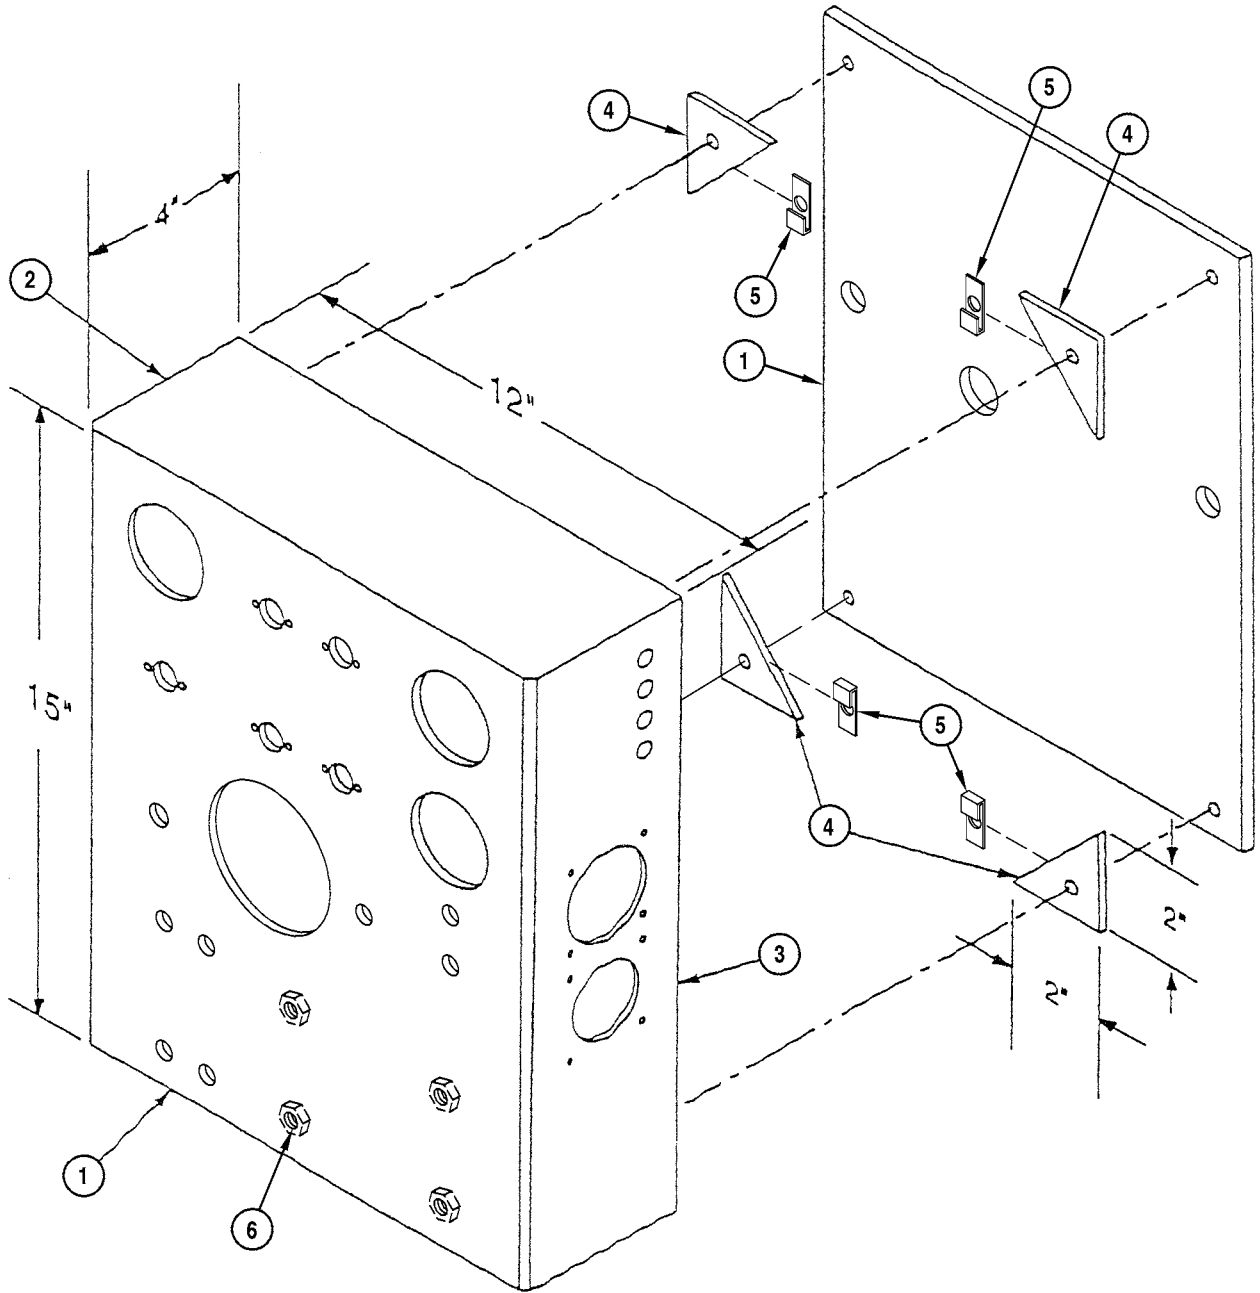

Figure 2-26. Instrument Panel/Box
1. Cut two 1/8-inch aluminum plates, 15 inches by 12 inches (1). See Figure 2-26.
2. Cut two 1/8-inch aluminum plates, 4 inches by 12 inches (2). See Figure 2-26.
3. Cut two 1/8-inch aluminum plates, 4 inches by 15 inches (3). See Figure 2-26.
4. Measure 2, 3, 2, 3, and 2 inches across the 12-inch side of front panel (1). See Figure 2-26.
5. Measure 2, 3, and 3 inches down 15-inch side of front panel (1). See Figure 2-26.
7. Drill three 2.108-inch diameter holes in front panel (1). See Figure 2-26.
8. Drill six 0.656-inch diameter holes in front panel (1). See Figure 2-26.
9. Drill twelve 0.177-inch diameter holes in front panel (1). See Figure 2-26.
10. Drill two 0.438-inch diameter holes in front panel (1). See Figure 2-26.
11. Weld four weldnuts (6) to inside of front panel (1). Use STE/ICE circuit card to layout weldnut pattern or space them 2-1/2 inches by 4-1/2 inches—leave room for card. See Figure 2-26.
12. Measure 1, 3/4, 3/4, and 3/4 inch from top of side panel (3) and scribe four lines.
13. Measure 1 inch from side of back side panel (3) and scribe a line.
14. Drill four 0.468-inch holes for circuit breakers where scribe lines intersect in side panel (3).
15. Layout and drill five connector holes in side panel (3). See Figure 2-26. The top two holes will depend on which connectors will be used. The bottom two holes are for STE/ICE. Drill one hole, 1-13/16-inch diameter and the other 2-1/2-inch diameter.
16. Using the starter relay as a template drill two mounting holes in the bottom 4- by 12- by 1/8-inch aluminum plate (2).
17. Weld one 1/8-inch aluminum plate (1), two aluminum plates (2), and two aluminum plates (3) to form a box. See Figure 2-26.
18. Cut two 2- by 2- by 1/8-inch aluminum plates (4) diagonally. Drill one hole in the center of each triangle. The size of hole is determined by the availability of black spring steel U-nuts (5). See Figure 2-26.
19. Weld four triangle (4) in each corner of the box flush with the edge of panels (2 and 3). See Figure 2-26.
20. Install four black spring steel U-nuts (5) on four triangle (4).
21. Drill four holes in 12- by 15- by 1/8-inch aluminum rear panel (1) the same size as the holes drilled in four triangles (4). See Figure 2-26.